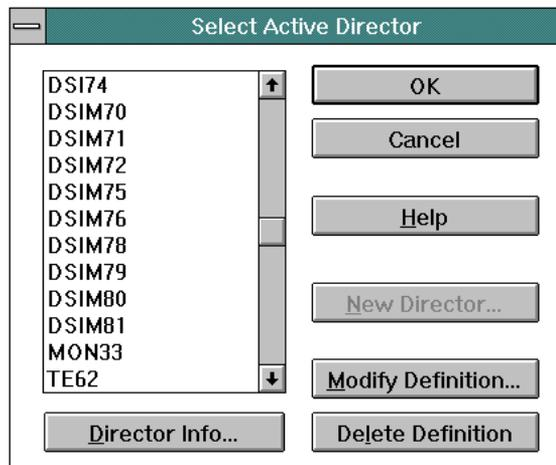

Figure 187. Select Active Director Dialog Box
2. Select the *Open Active Configuration Matrix* option from the *File* menu. The *Select Active Director* dialog box appears (Figure 187).
8. Select the *Open Active Configuration Matrix* option from the *File* menu. The *Select Active Director* dialog box appears (Figure 187 on page 184).
13. Type a maintenance authorization password (default is **LEVEL002**) and click the *OK* button. The *Select Active Director* dialog box reappears (Figure 187 on page 184).